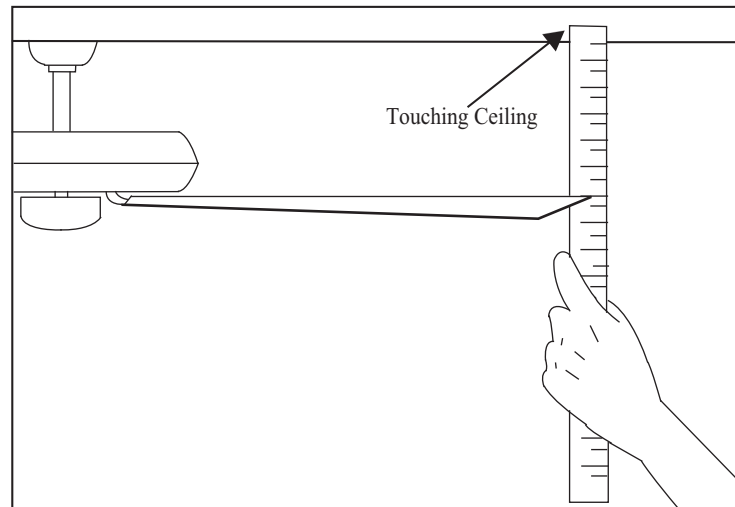

Figure 17
2. Most fan wobble problems are caused when blade levels are unequal. Check this level by selecting a point on the ceiling above the tip of one of the blades. Measure from a point on the center of each blade to the point on the ceiling. Measure this distance as shown in Figure 17. Rotate the fan until the next blade is positioned for measurement. Repeat for each blade. Measurements deviation should be within  $1/8"$ . Run the fan for 10 Minutes.